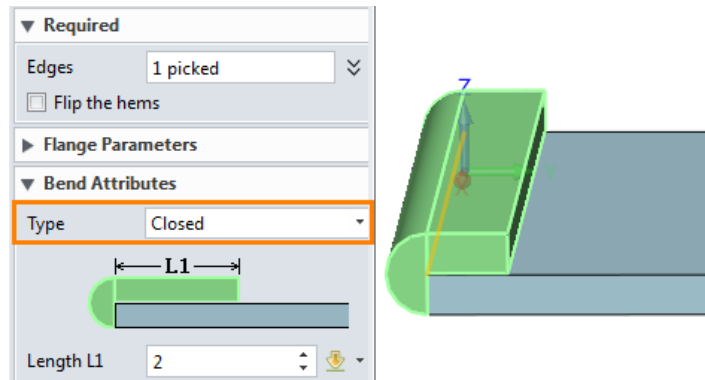

Figure 24 Hem Flange
STEP 02 Choose Hem Flange to create hem flange as shown in Figure 24.